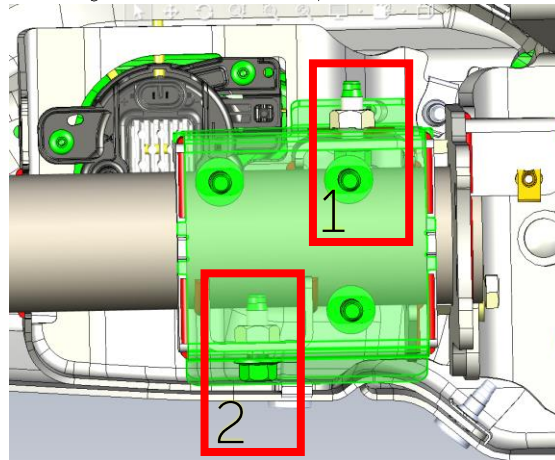

Figure 4 – Backside AEV Frame Bracket
- Loosely install [2] M10 Bolts (11588738) with M15 Socket per side – Fig. 4